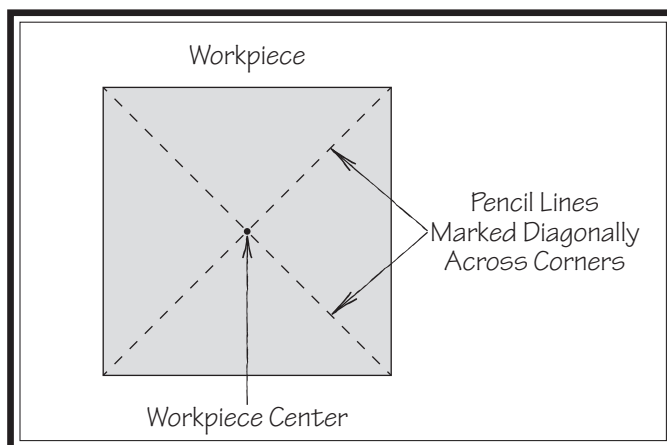

Figure 32. Workpiece marked diagonally from corner to corner to determine center.
1. Find center point of both ends of workpiece by drawing diagonal lines from corner to corner across ends (see **Figure 32**).